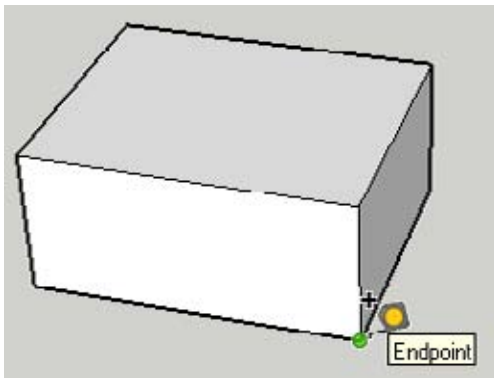

Figure 10-23
2. Click the corner point from where you will measure the distance to the construction point (Figure 10-23).